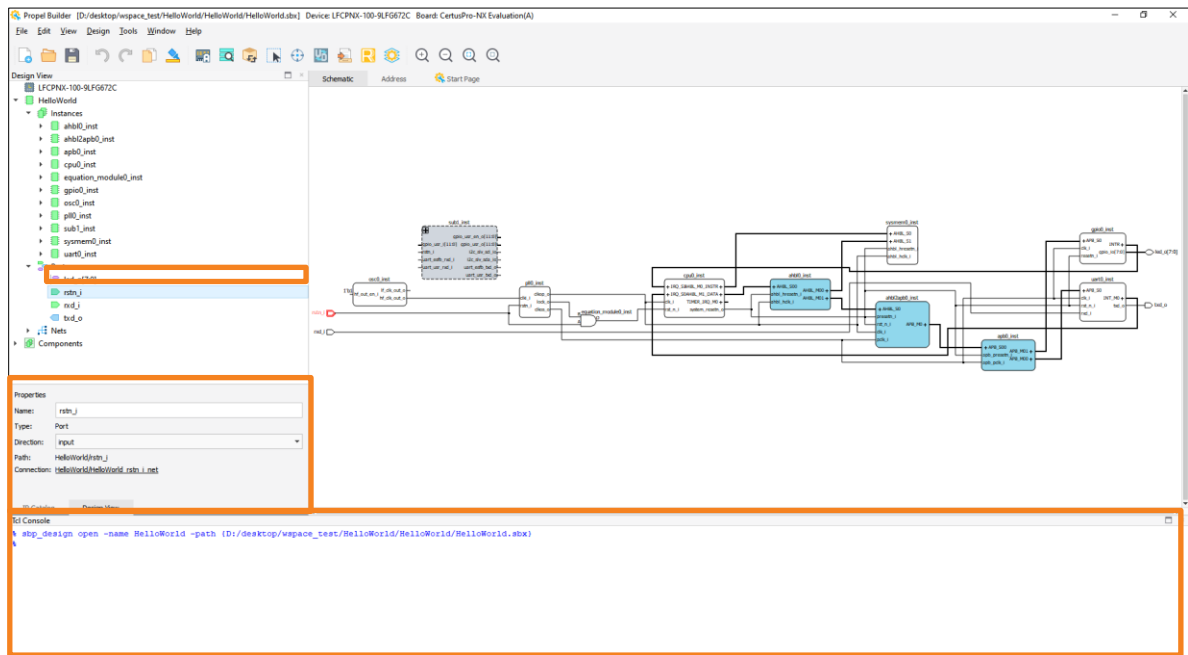

Figure 2.71. Properties of Port
- a. Click on port, **Properties** window open (Figure 2.71)